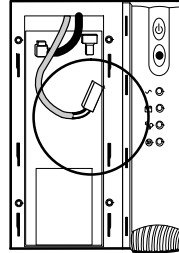

Figure 4. Removing the Protective Label
4. Remove the protective label from the internal battery connector (see Figure 4).